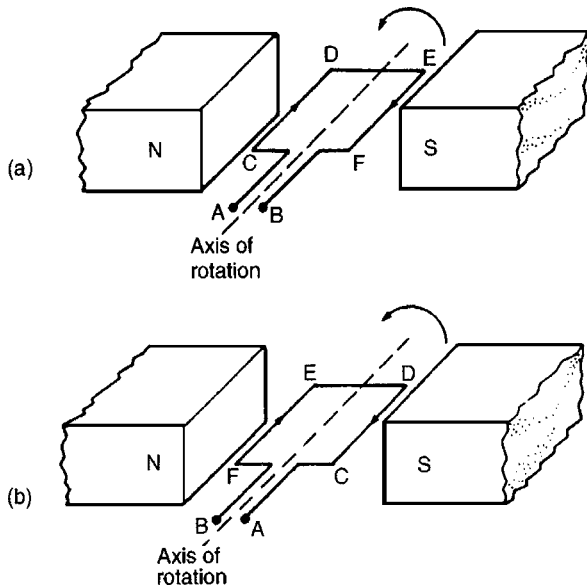
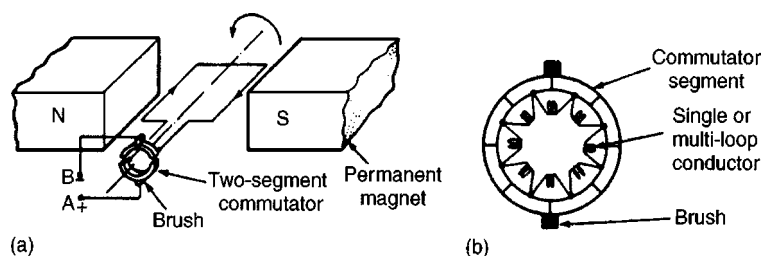

Figure 22.1
Figure 22.2
In an electric motor, conductors rotate in a uniform magnetic field. A single-loop conductor mounted between permanent magnets is shown in Fig. 22.1. A voltage is applied at points A and B in Fig. 22.1(a)
to the current flowing from E to F (from Fleming's left hand rule). If the loop is free to rotate, then when it has rotated through  $180^\circ$ , the conductors are as shown in Fig. 22.1(b). For rotation to continue in the same direction, it is necessary for the current flow to be as shown in Fig. 22.1(b), i.e. from D to C and from F to E. This apparent reversal in the direction of current flow is achieved by a process called **commutation**. With reference to Fig. 22.2(a), when a direct voltage is applied at A and B, then as the single-loop conductor rotates, current flow will always be away from the commutator for the part of the conductor adjacent to the N-pole and towards the commutator for the part of the conductor adjacent to the S-pole. Thus the forces act to give continuous rotation in an anti-clockwise direction. The arrangement shown in Fig. 22.2(a) is called a 'two-segment' commutator and the voltage is applied to the rotating segments by stationary **brushes**, (usually carbon blocks), which slide on the commutator material, (usually copper), when rotation takes place.
In practice, there are many conductors on the rotating part of a d.c. machine and these are attached to many commutator segments. A schematic diagram of a multi-segment commutator is shown in Fig. 22.2(b).
- (iii) **field windings**, i.e. many turns of a conductor wound round the pole core; current passing through this conductor creates an electromagnet, (rather than the permanent magnets shown in Figs. 22.1 and 22.2),